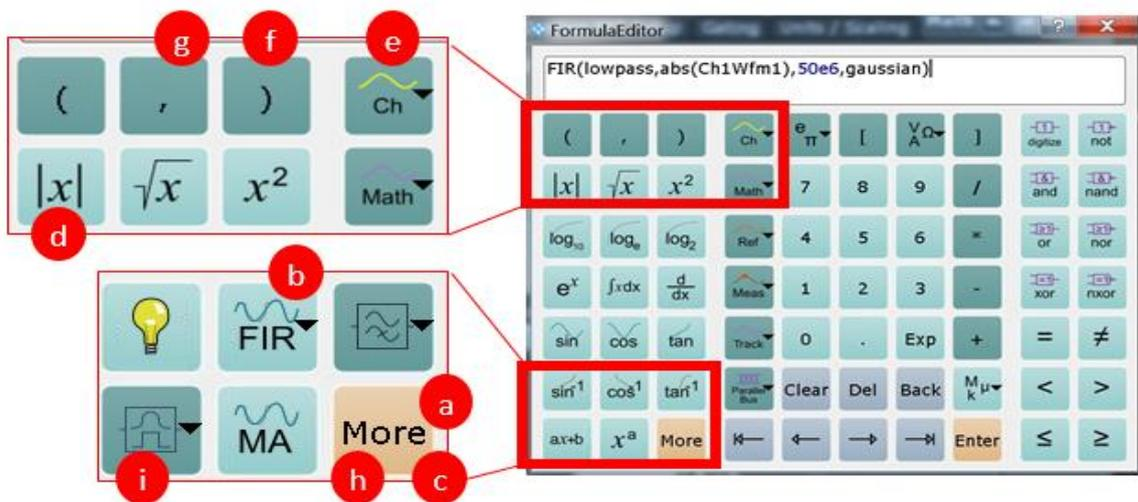

Figure 8: FormulaEditor
3. Click on the editor area. The **[Formula Editor]** opens, (see Figure 8: FormulaEditor on next page)